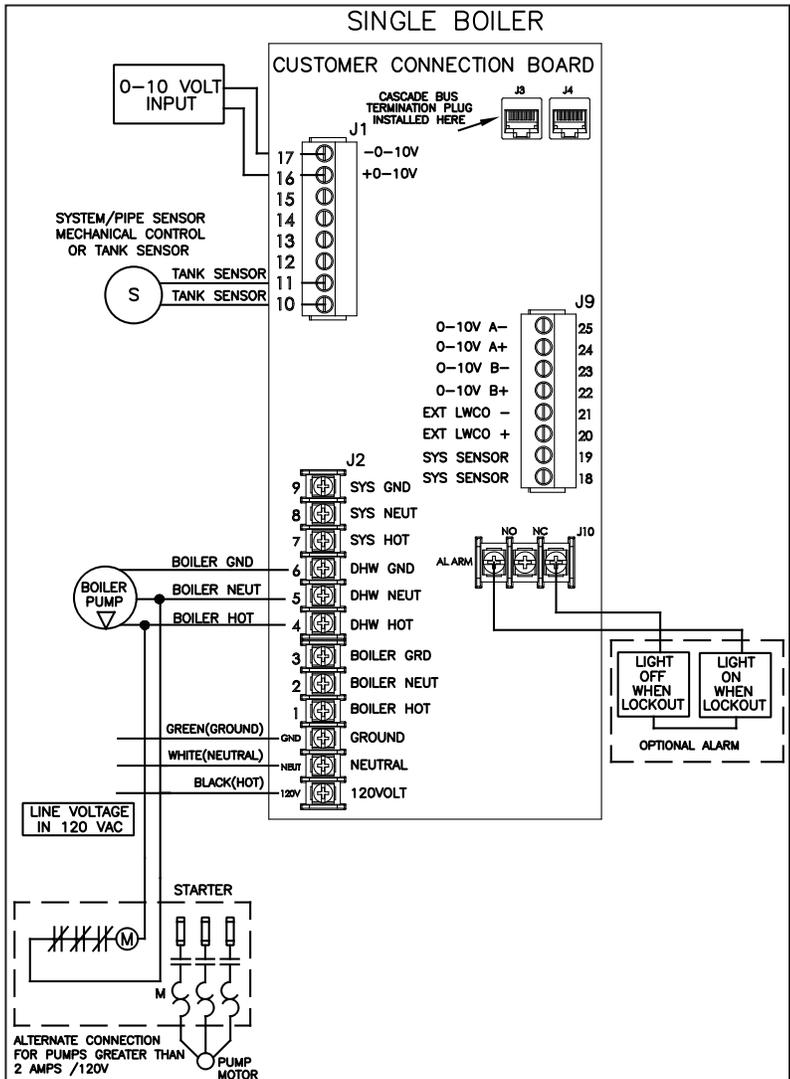

Figure 24 - VWH Control Wiring
NOTE: A termination plug is included in the CAT 3 / CAT 5 Bus Connection Point, labeled J3 in Figure 24. DO NOT REMOVE THIS PLUG! Doing so will affect VWH operation and void warranty.
1. Connect 120V / 60Hz / 15 AMP incoming power wiring to the line voltage terminal strip in the electrical junction box at terminals 120V, Neutral, Ground (shown in Figure 24).
3. Connect the VWH pump as shown in Figure 24 to the terminals marked 1 – (HOT), 2 – (NEUT), and 3 – (GND). The connections shown are suitable for a maximum continuous pump draw of 2 amps at 120 volts. If the pump requires more current or voltage than the 120 volts supplied, an external motor starter or contactor will be required.
The control includes a dry contact alarm output. This is an SPDT circuit, rated at 5 amps at 120 volts. This contact can be used to activate an alarm light or bell or notify a building management system if the VWH goes into a lockout condition. The circuit between the ALARM COM and NC terminals is closed during normal operation and the circuit between ALARM COM and NO is open during normal operation. The connections depicted in Figure 24 show two 120 volt lights connected to the alarm terminals. One light will be on when the VWH is in normal mode and the other light will be on when the VWH is in lockout mode.
Connect the tank sensor or mechanical controls to the TANK SENSOR terminals (10, 11) of the low voltage terminal strip as shown in Figure 24. The control will automatically determine which type of sensor is connected and operate accordingly.
The system/pipe sensor can be used to control the temperature of the storage tank when a tank sensor or mechanical control cannot be mounted. The system/pipe sensor would be wired into the terminals of the low voltage terminal strip as shown on Figure 24. It is important to note that when a system/pipe sensor is used, the circulating pump must be wired to operate continuously; otherwise the VWH will short cycle.
2. Connect a building management system or other auxiliary control signal to the terminals marked 16, 0-10 VOLT + and 17, 0-10 VOLT - in the electrical junction box (shown in Figure 24). Caution should be used to ensure that the 0-10 VOLT + connection does not become connected to ground.
1. Connect the VWH pump as shown in Figure 24 to the terminals marked 1 – (HOT), 2 – (NEUT), and 3 – (GND). The connections shown are suitable for a maximum continuous pump draw of 2 amps at 120 volts. If the pump requires more current or voltage than the 120 volts supplied, an external motor starter or contactor will be required.